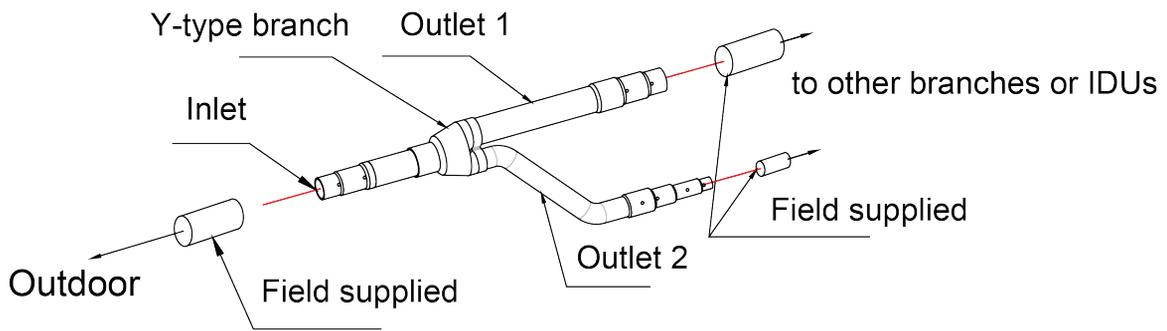

Fig. 4.3.5.1
(2) Y-type branch has several pipe sections with different dimension, which facilitates to match with various copper pipes. Use pipe cutter to cut in the middle of the pipe section that is of proper dimension and remove burrs as well. See Fig. 4.3.5.2.
(3) Y-type branch must be installed vertically or horizontally.